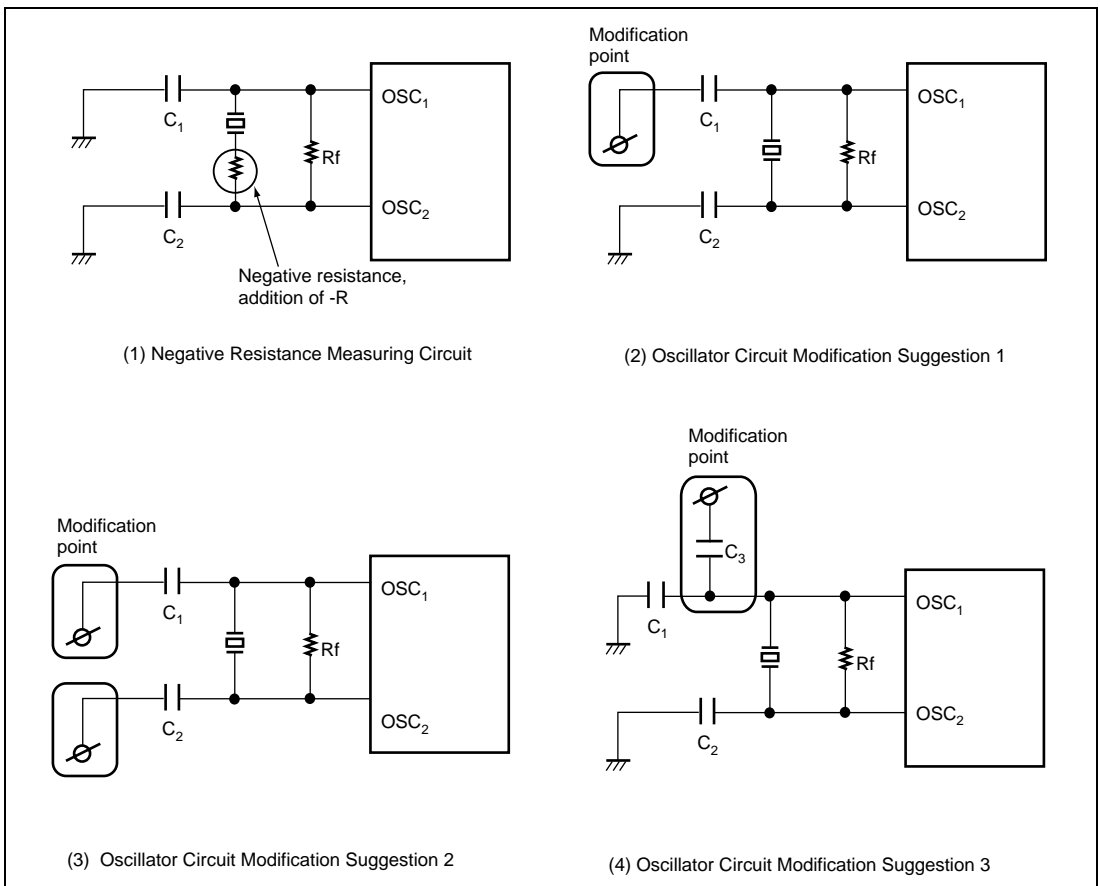

Figure 5.10 Negative Resistance Measurement and Circuit Modification Suggestions
Figure 5.10 (1) shows an example measuring circuit with the negative resistance recommended by the resonator manufacturer. Note that if the negative resistance of the circuit is less than that recommended by the resonator manufacturer, it may be difficult to start the main oscillator.
If it is determined that oscillation does not occur because the negative resistance is lower than the level recommended by the resonator manufacturer, the circuit must be modified as shown in figure 5.10 (2) through (4). Which of the modification suggestions to use and the capacitor capacitance should be decided based upon evaluation results such as the negative resistance and the frequency deviation.